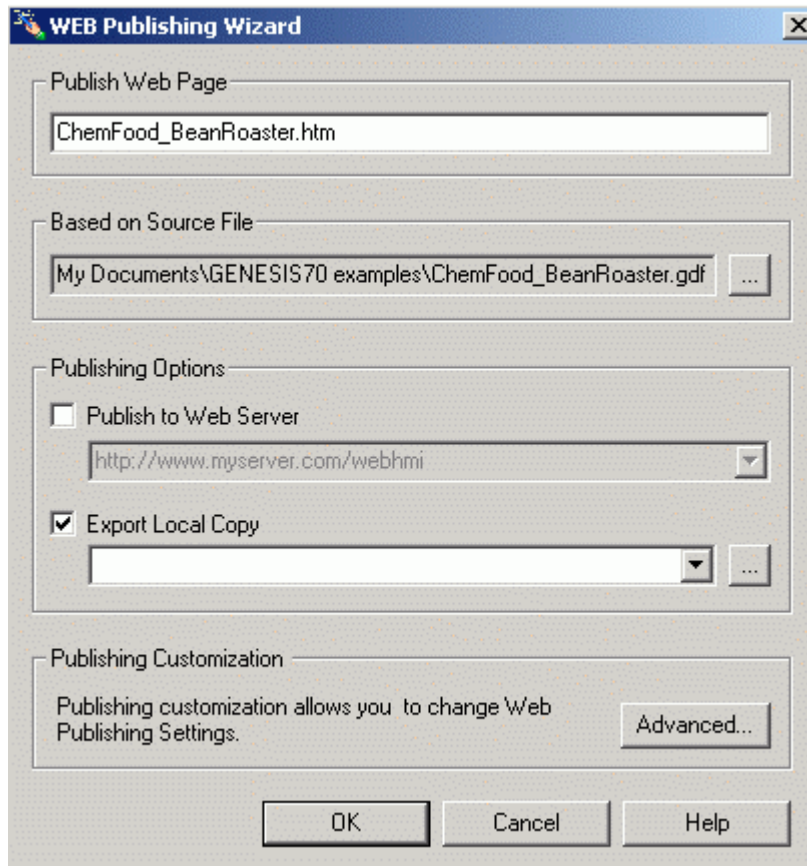

Figure 4.5. Specifying a GraphWorX32 Display File
1. In the **Based on Source File** field of the Web Publishing Wizard, you must specify the name of the GraphWorX32 display (.gdf) file to be exported, as shown in **Figure 4.5**. To choose a different display, click the ... button to the right to browse for a file. Select a file and then click **Open**. The directory path and the file name are shown in the text field.